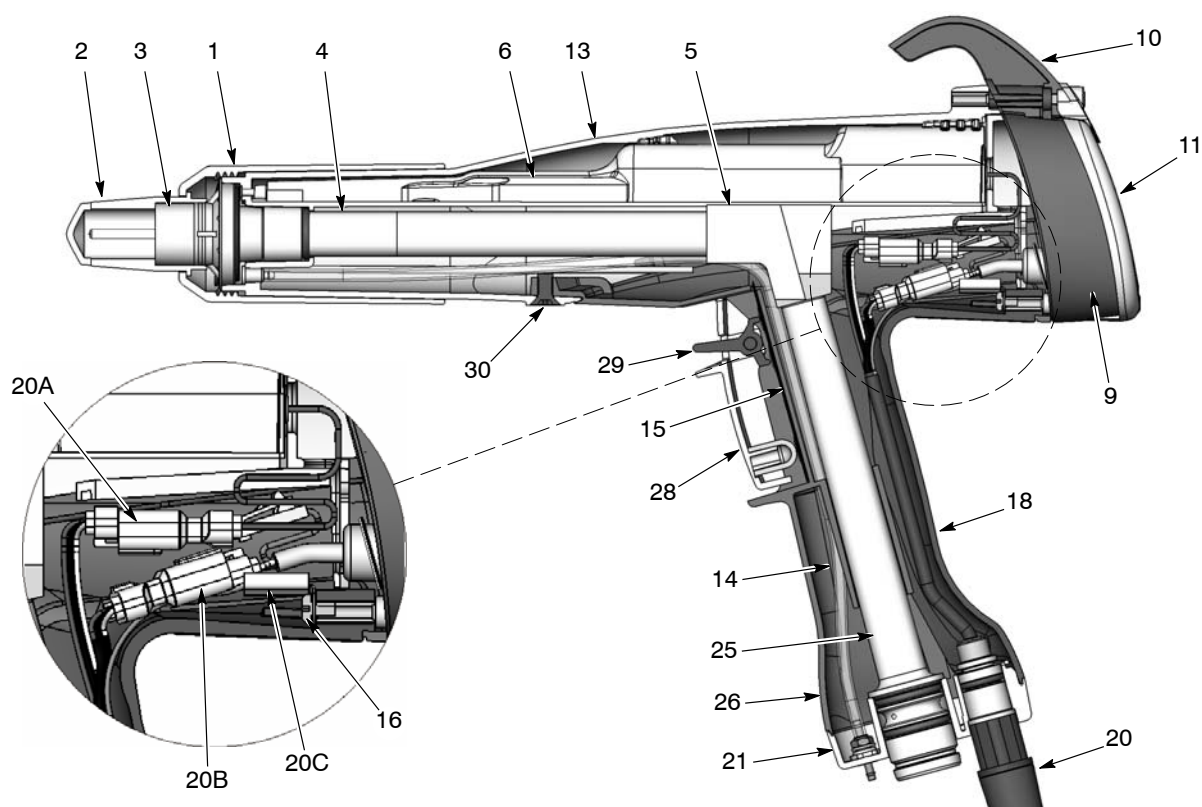

Figure 6-1 Section View of Spray Gun (item numbers in this section match item numbers in parts list)
1. See Figures 6-1 and 6-2. Unscrew the top and bottom screws (12) holding the bezel (11), hook (10) and display module (9) onto the gun body.
2. See Figure 6-1. Unscrew the nozzle nut and remove the nozzle and electrode assembly from the spray gun.